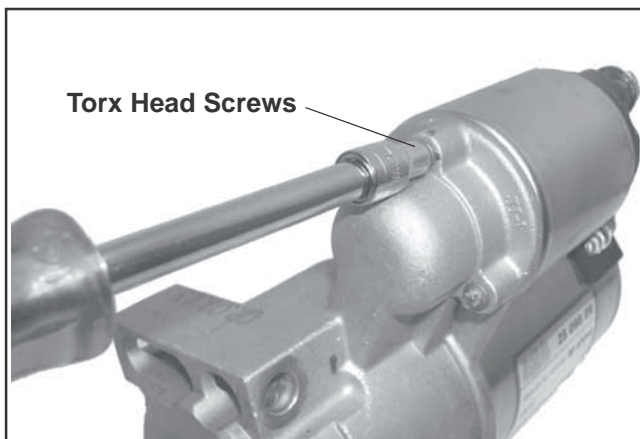

Figure 7-17. Removing Solenoid Screws.
2. Remove the three Torx head screws securing the solenoid to the starter. See Figure 7-17.